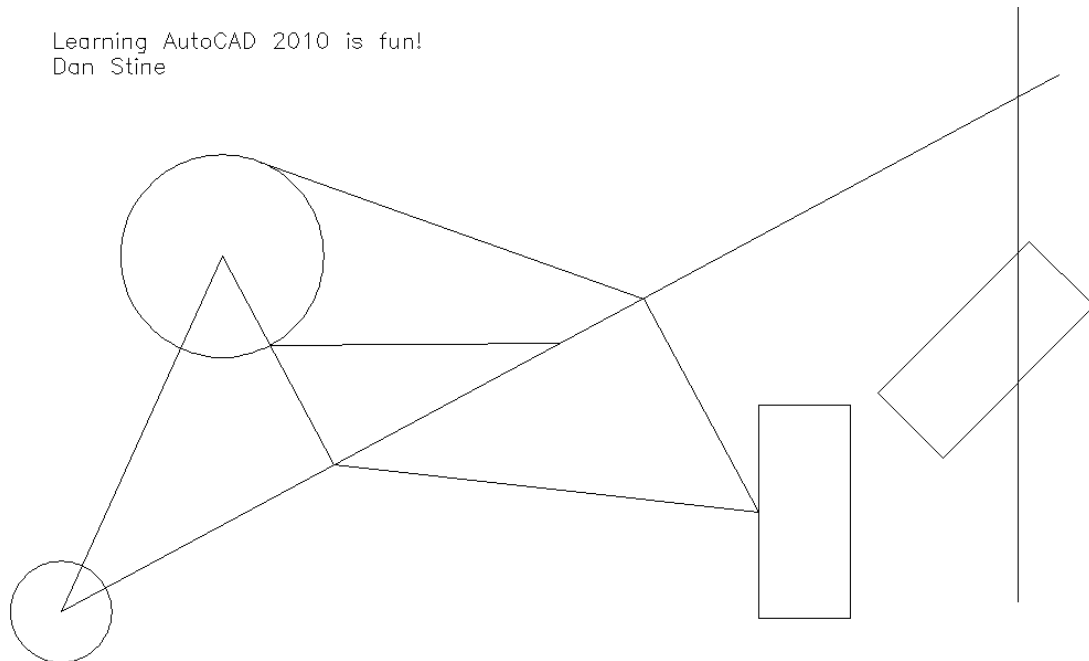

Figure 2-4.4 Mtext; final results of text entered
Your text should look similar to Figure 2-4.4. Text can be Moved and Rotated with the tools on the *Modify* toolbar.
2. Use the **Zoom** tools if required to display the portion of drawing shown in Figure 2-4.4.